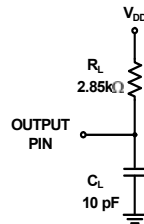

FIGURE 2. EQUIVALENT LOAD CIRCUIT
- During characterization,  $t_{DISABLE}$  is measured from the release point with a 10pF load (see Figure 2 on page 8) and the equivalent timing using the AD7450 loading (50pF) is calculated.